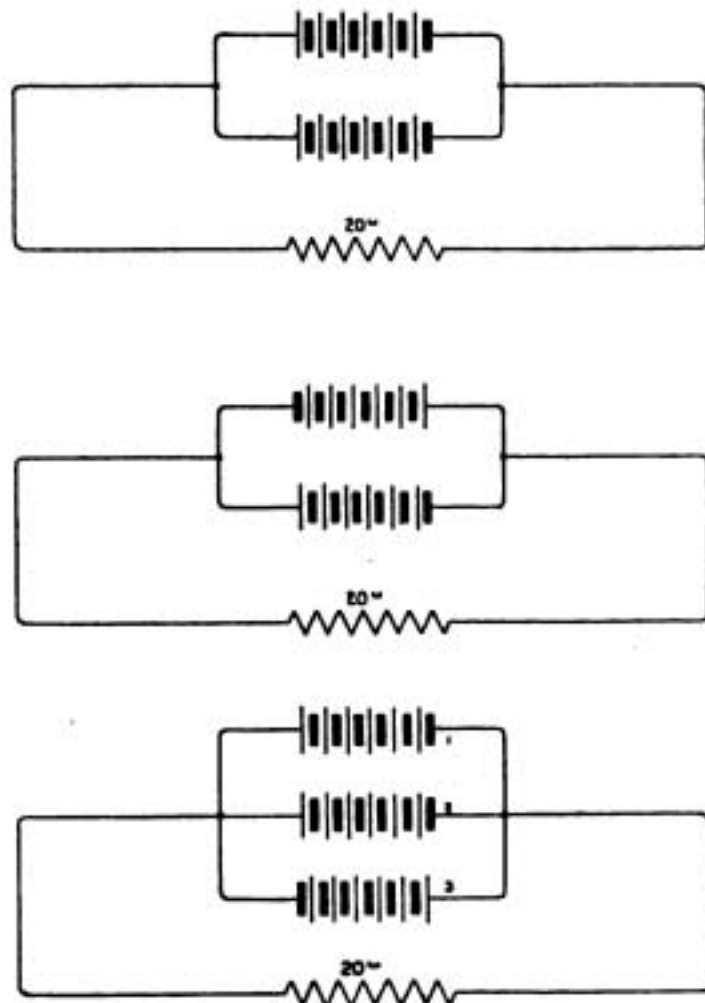

Fig. 3.
**G.S. (Leeds)** asks (1) to whom to apply for an extension of a pre-war license. (2) Is the sketch he encloses of an aerial suitable for receiving. (3) For a diagram of a single valve set employing a loose-coupled inductance.
(1) The Secretary, G.P.O., London.
(2) Yes.
(3) See Fig. 3, page 629 of the issue of November 27th, and others in recent issues.
**AMATEUR (Normanton).**—(1) We cannot state the wavelength as your figures are not consistent. The number of turns and size of formers lead to lengths of wire widely different from your stated values. A loose coupler on formers 1'' in diameter would be very inefficient; 0.00006 mfd. is too small for a tuned circuit condenser, and
(2) A crystal circuit can be adapted for C.W. by the use of a tikker, but this is not in general convenient. The usual method is by means of a valve.
(3) The place shown for the A.T.C. is correct.
**W.S.M. (Penzance)** asks for the currents in line and each arm for three arrangements of batteries of six cells of one volt each, the internal resistance one ohm each, and the line resistance 20 ohms. (See Fig. 3.)
(1) Current through 20 ohms =  $6/23$  amps.